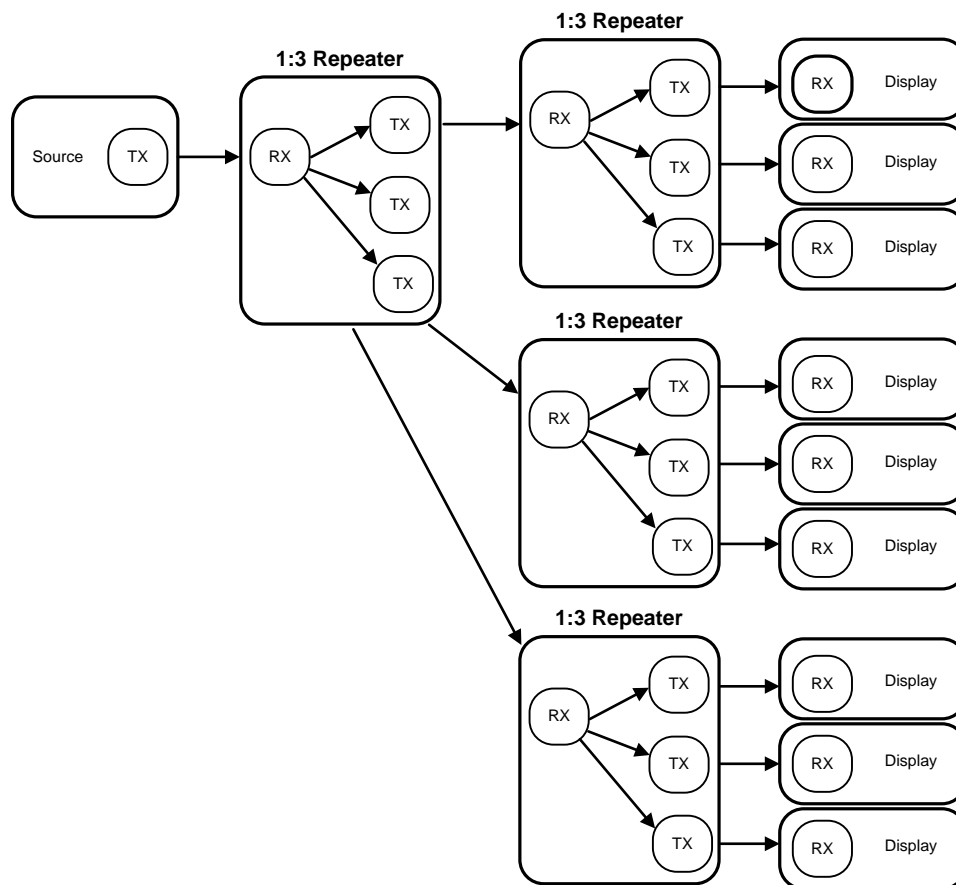

Figure 13. HDCP Maximum Repeater Application
In HDCP repeater application, In this document, the DS90UH925Q is referred to as the HDCP Transmitter or transmit port (TX), and the DS90UH926Q is referred to as the HDCP Receiver (RX). Figure 13 shows the maximum configuration supported for HDCP Repeater implementations using the DS90UH925Q (TX) and DS90UH926Q (RX). Two levels of HDCP Repeaters are supported with a maximum of three HDCP Transmitters per HDCP Receiver.